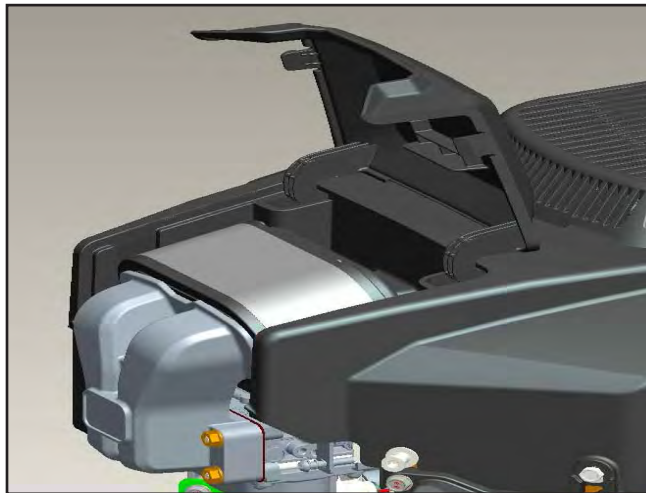

Figure 43
1. Install the new air filter (Figure 43).